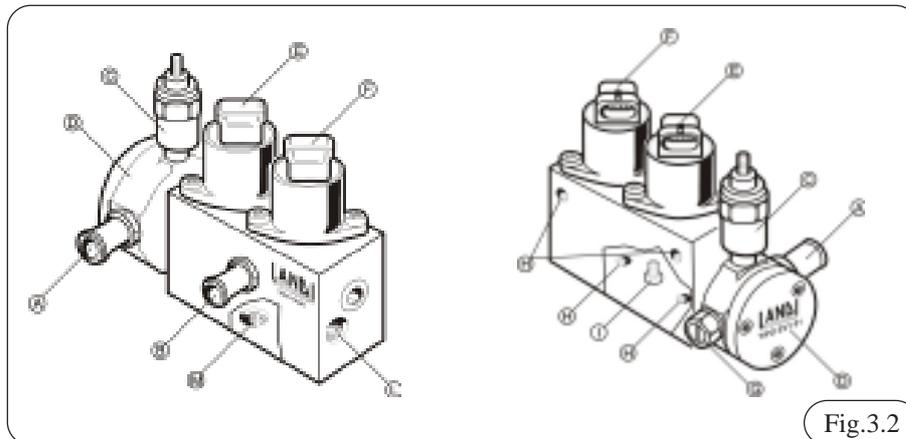

Fig.3.2
The **Proportioner (P)** (Fig. 3.2) includes two step-motors which sequentially drive two valves. The first step-operates at idle and low RPM conditions, the second handles the gas output at medium-high engine power output and during acceleration.